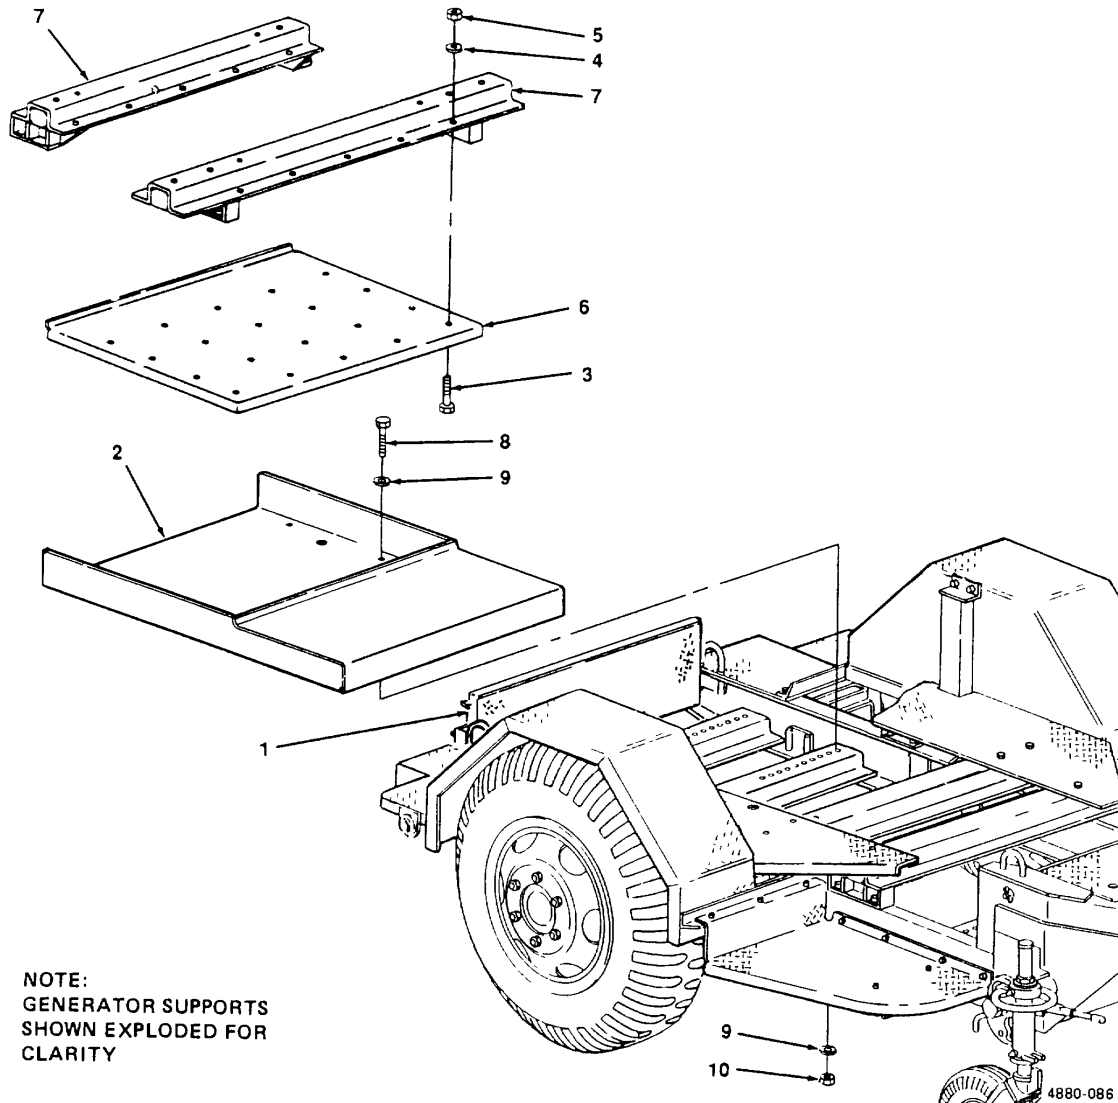

Figure 5-12. Storage Tray and Cover Repair and Replacement.
5-14. Storage Tray and Cover Repair and Replacement. (See figure 5-12)
- (1) Remove generator set (paragraph 5-2).
- (2) Lower tailgate (1, figure 5-12).
- (3) Remove contents of storage tray (2).
- (4) Remove 20 screws (3), 20 flat washers (4) and 20 self-locking nuts (5) and remove storage tray cover (6) from generator set supports (7).